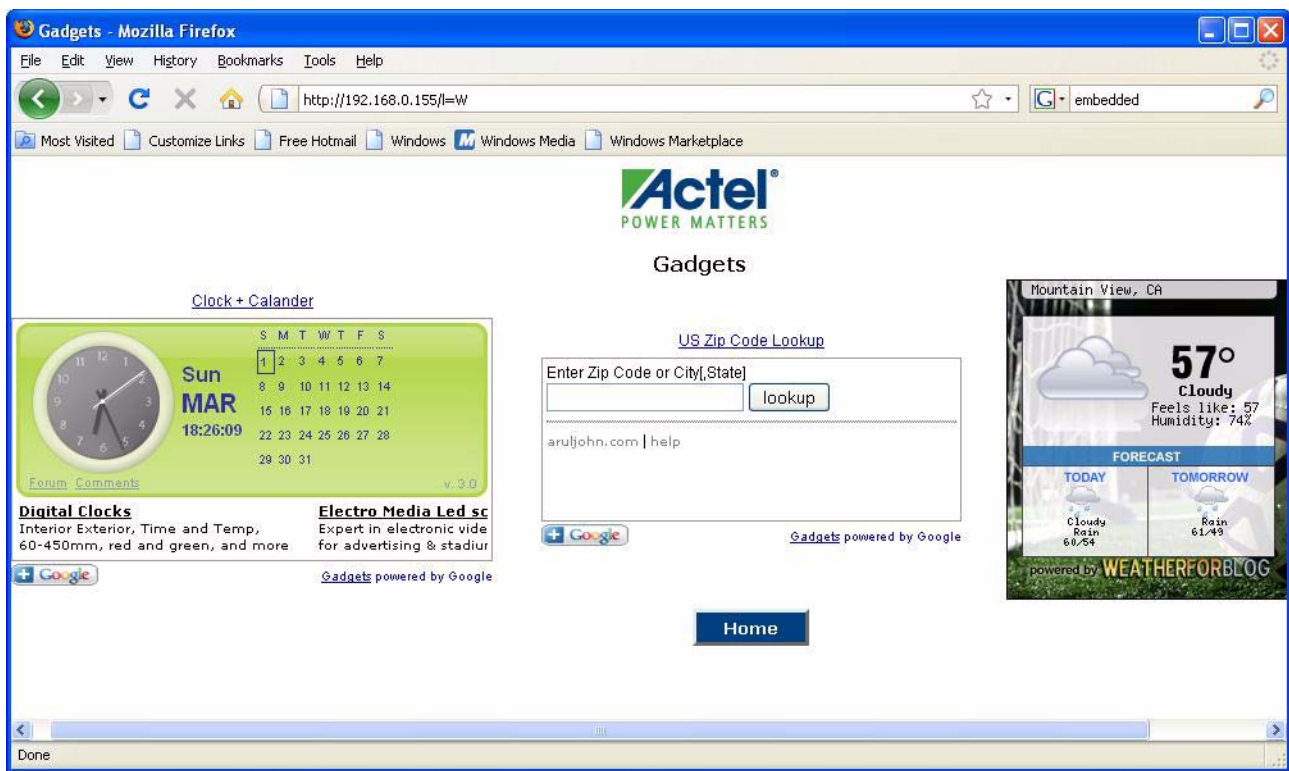

Figure 2-37 · Gadgets
2. The web page displays three different gadgets (Figure 2-37).
- Note:** This page takes services from another server for the widget display. This service may not be available in future, in which case the page may not appear as shown in Figure 2-37.